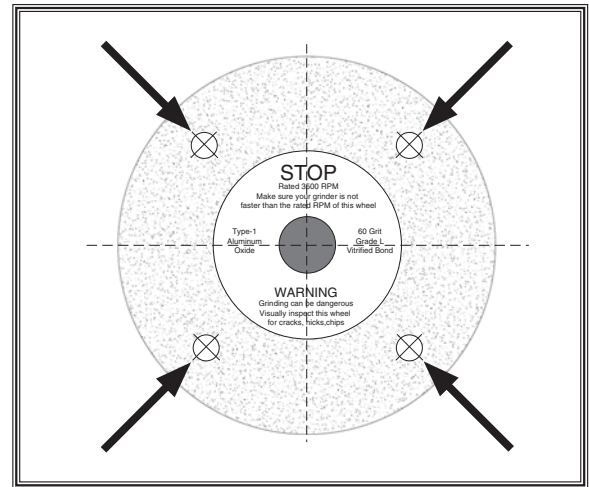

Figure 17. Tapping locations when performing a ring test.
3. At spots shown in **Figure 17**, gently tap grinding wheel with a light non-metallic device such as handle of a screwdriver or a wooden mallet.